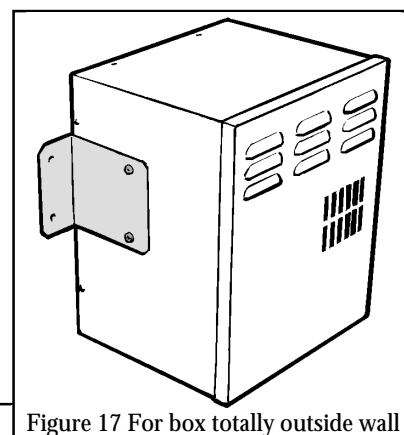

Figure 17 For box totally outside wall
7.2 If the fan box is to be sited totally outside the wall fit the brackets with the short flanges flush with the air intake end of the fan box (see figure 17).